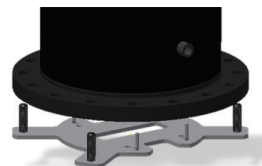

Figure D-18
**D1.25)** Lift the insertion housing off the alignment gauge plate and carefully place on the temporary gate valve (see Figure D-18).